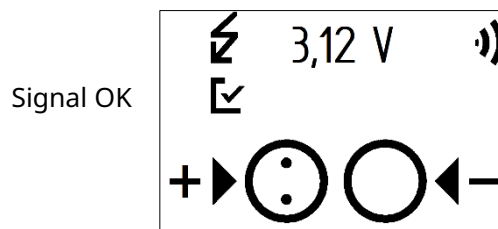

Figure 26: Measurement Screen example (other) with Signal OK-symbol
- the Signal OK-symbol  appears after the Ulyser has received three pulses (Figure 26). Please note the pulse repetition rate of the ULD/LF-ULD.